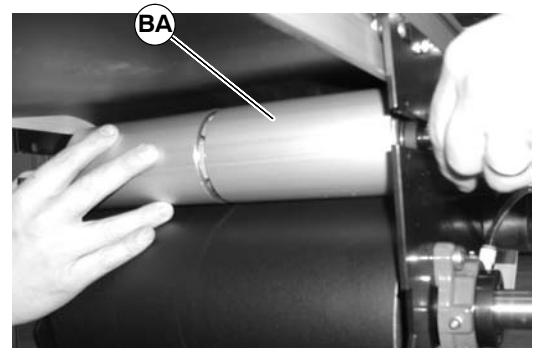

Figure 27
10. Slide out tensioning roller (BA of Figure 27).